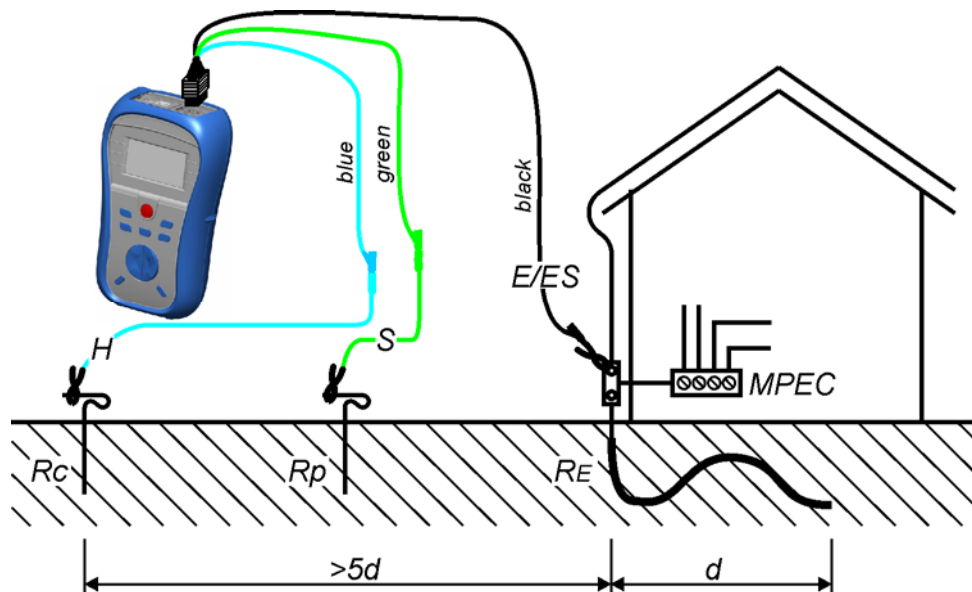

Figure 5.38: Resistance to earth, measurement of main installation earthing
- ❑ **Connect** the item to be tested (see figures 5.38, 5.39).